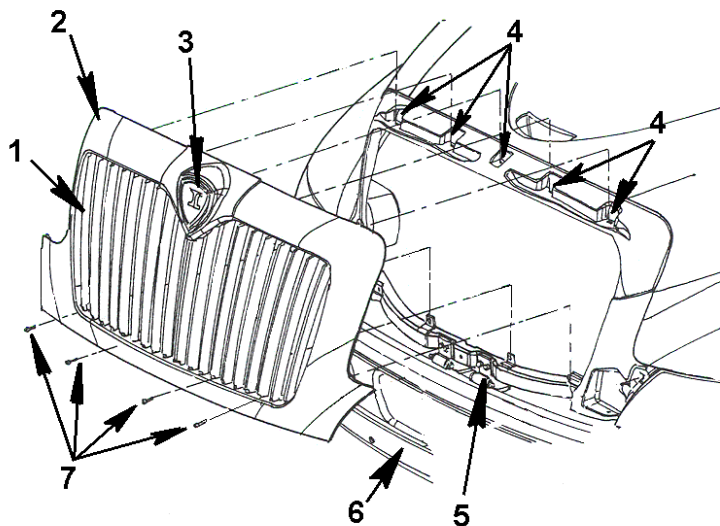

Figure 34 Grille And Shroud Removal
The grille and grille shroud assembly is a one-piece, painted, injection-molded assembly (Figure 34, Items 1 and 2), designed with an aerodynamic styling to enhance the overall appearance of the CE series bus chassis.
1. Locate the four lower grille and shroud mounting screws on the grille assembly (Figure 34, Item 7).